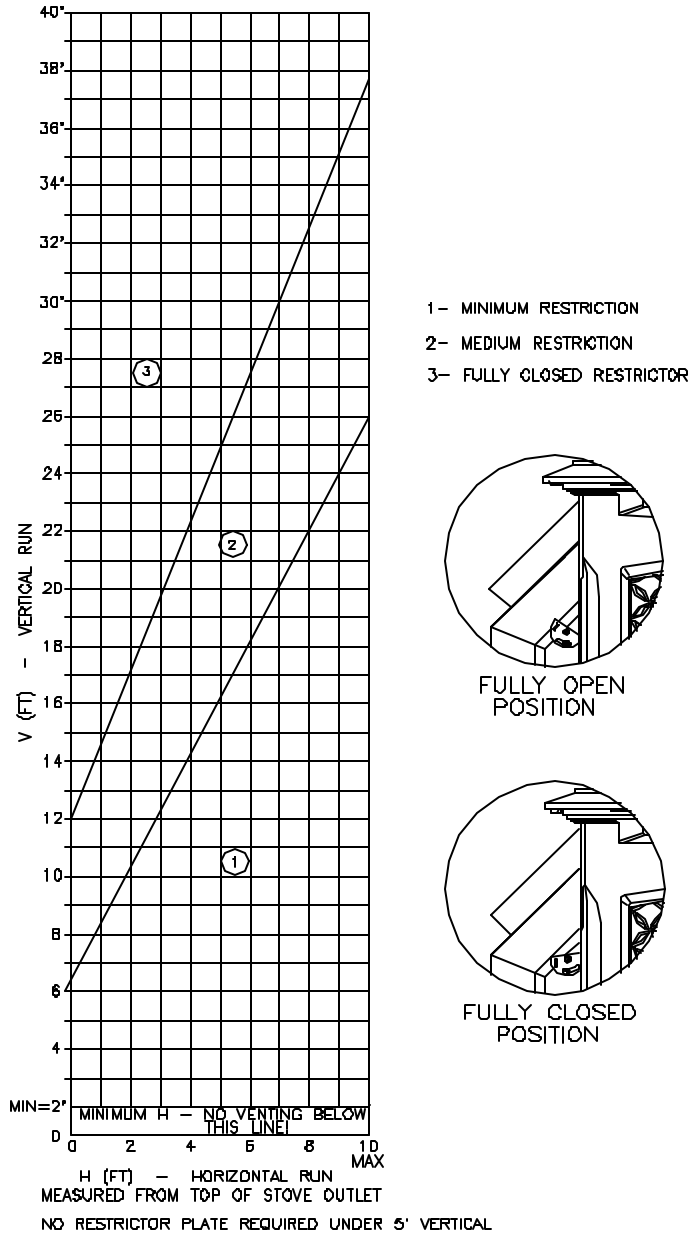
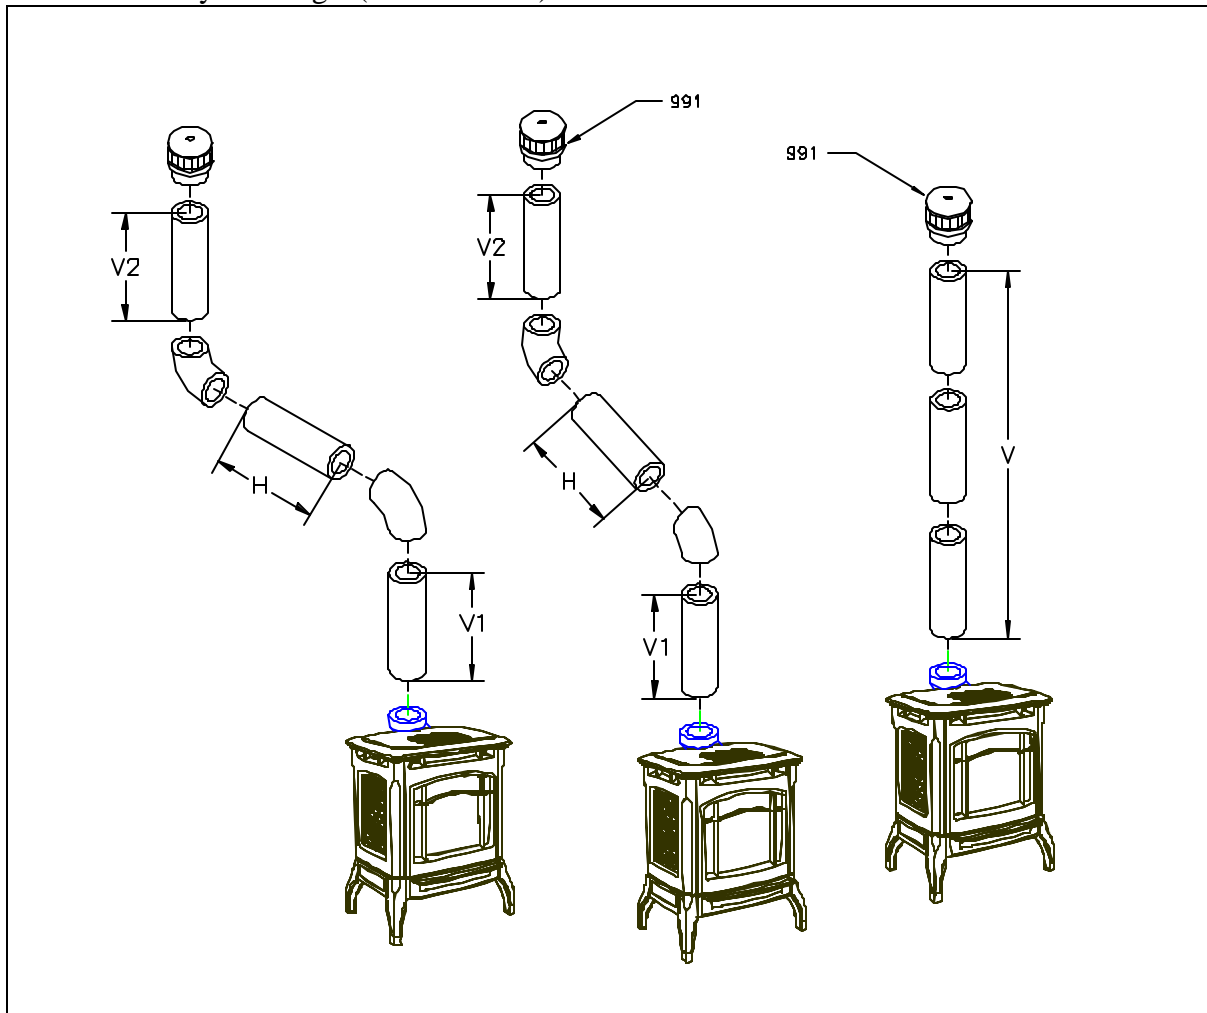

Figure 7
Figure 8
To adjust your restrictor for maximum flame appearance, loosen the Phillips head screw and spin the locator, found on the rear left side of the stove. (Refer to figure 7)
- The termination must fall within the area outlined in Figure 8 and the Chart in Figure 7.
- Maximum rise to run = 1 to 5 (refer to Figures 8 & 9)
- The termination must fall within the area outlined by the shaded area shown in *Figure 7*.